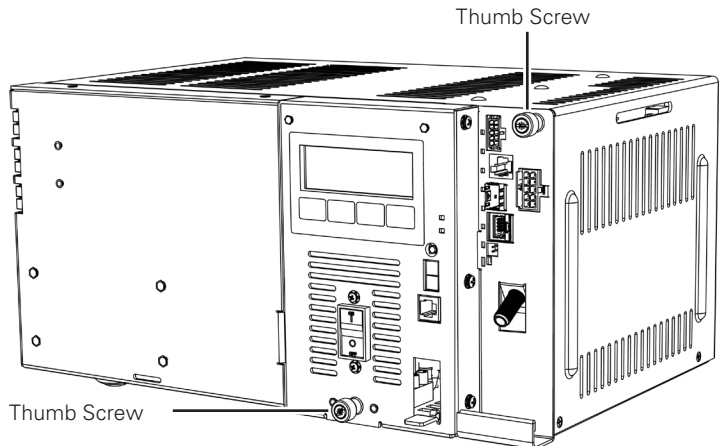

Fig. 2-16, Inverter Module Screw Locations
1. To access the output voltage terminal, remove the inverter module by removing the screw securing the module (see **Fig. 2-16, Inverter Module Screw Locations on page 42**).
1. Loosen the thumb screws securing the inverter module and communications module (see **Fig. 2-16**). Pull out the inverter module.